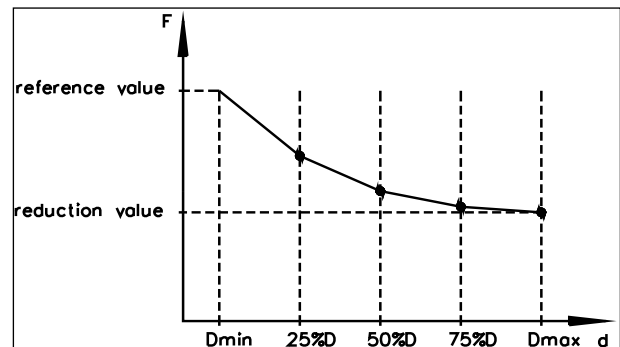

Fig. 29: Parametrisation of taper function
To cope with the unequal tensions requirements of an empty or full reel, a so called Taper Function can be introduced in the control loop. The Taper Function must be parametrised and the corresponding values have to be entered in specially prepared parameters for this function. The basic information that has to be entered in the controller concern the reel dimensions and its change during the un- or rewinding process (see Fig. 29). The taper function must be activated in the 7.4 “Function Parameter Group” with the parameter *TaperFct* set to “yes”. Only then the respective parameters will appear in the parametrisation menu. These parameters (*MinTaper*, *MaxTaper*, *Ref25%d*, *Ref50%d*, *Ref75%d*, *Ref100%d*) are then stored in the 7.6 “Configuration Parameter Group”.
- In the parameter group Adjustment Procedures select the procedure *Diameter*. Follow the instruction in Fig. 29: State Diagram Adjustment Procedure “Diameter”.
Set the parameters *Ref25%d*, *Ref50%d*, *Ref75%d* and *Ref100%d* in the 7.6 “Configurations-Parameter List” such that it results in the desired taper function curve (see Fig. 29).